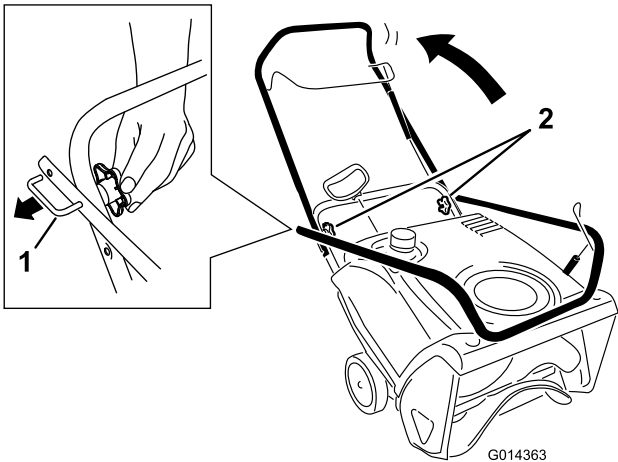

Figure 4
1. Loosen the handle knobs, pull out the “U”-shaped handle locks until you can move the handle freely, and rotate the handle to the operating position (Figure 4).